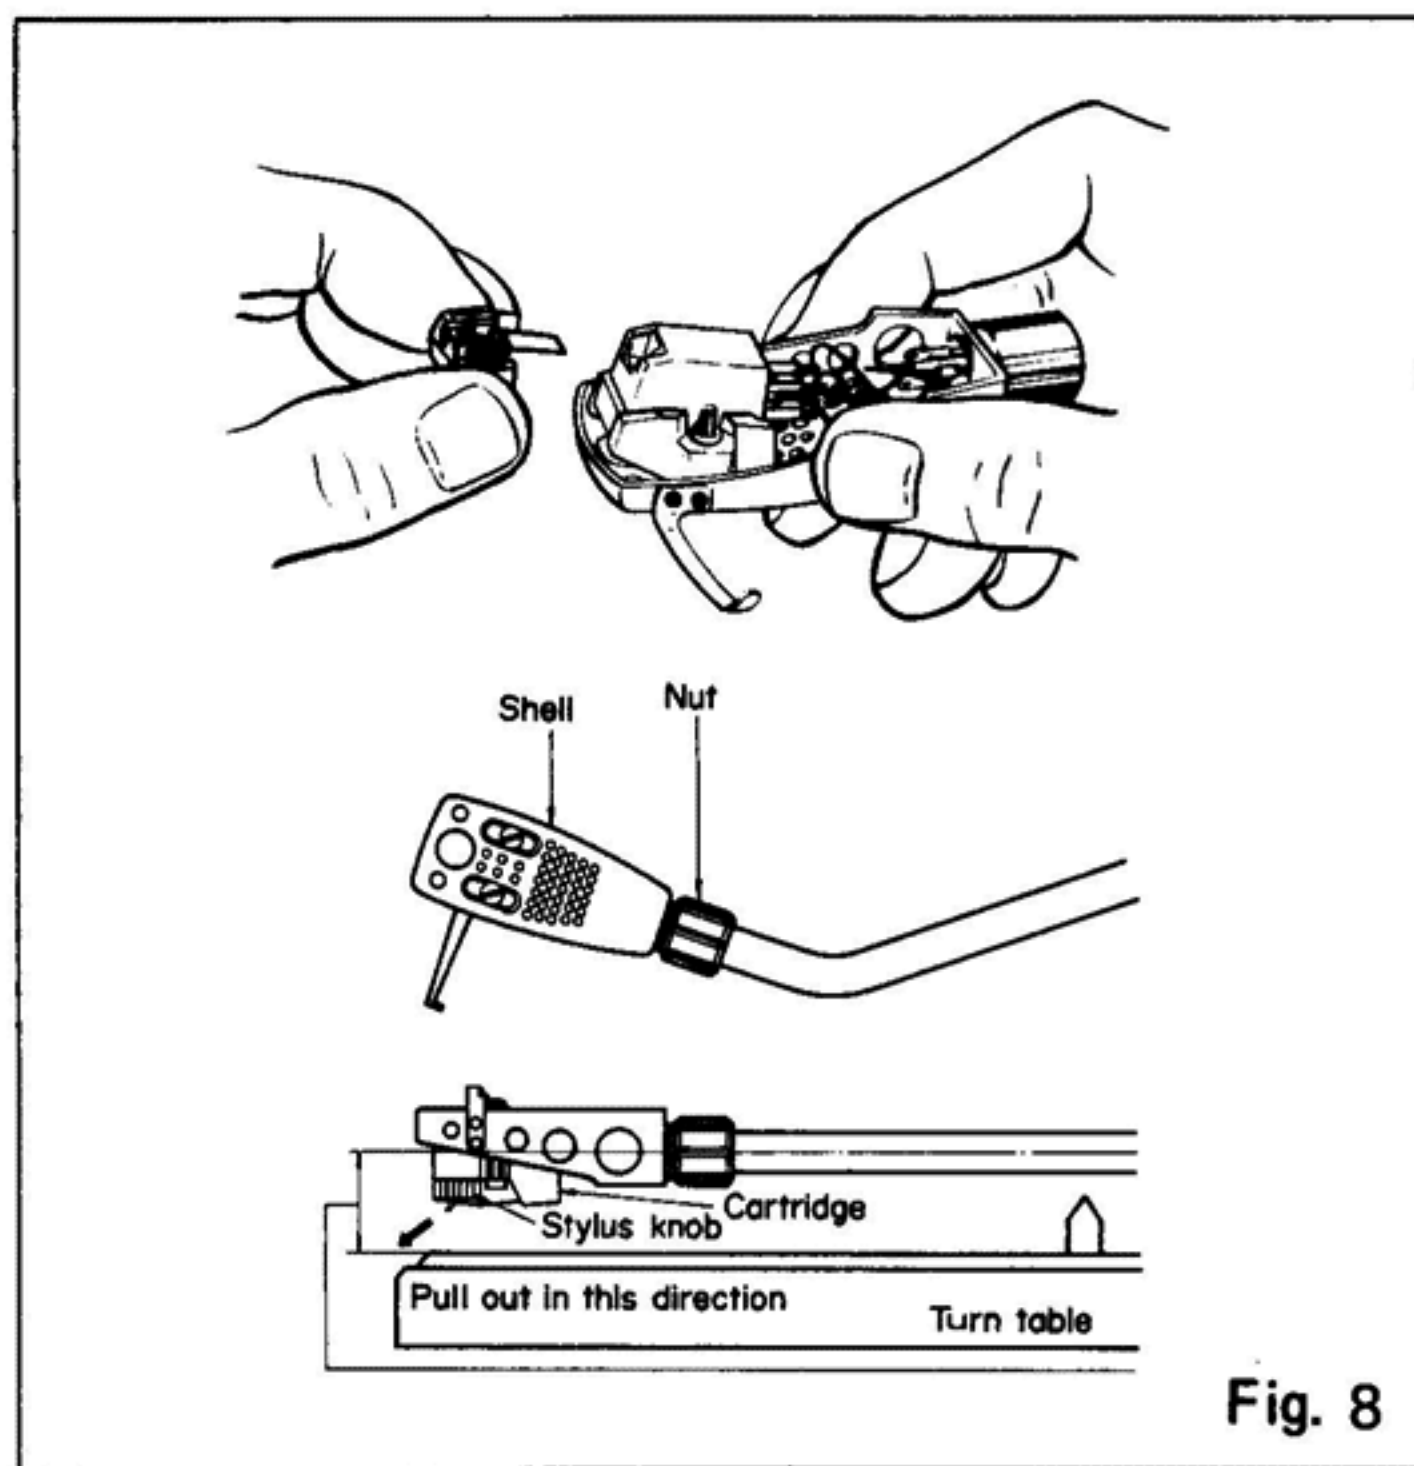

Fig. 8
2. To remove the old stylus, pull out the stylus assembly, holding the cartridge with your other hand. (Fig. 8)